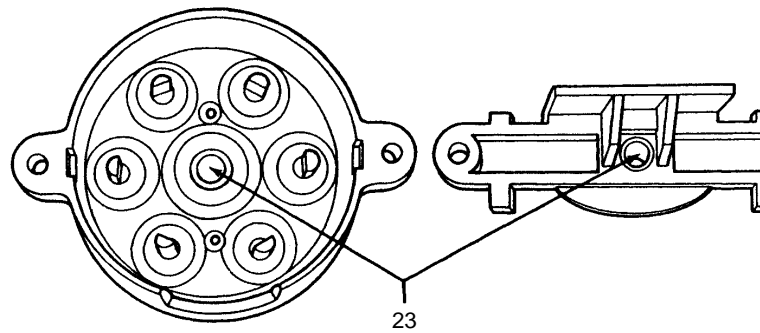

Figure 3
- (3) Gummy or sticky distributor gear oilite bearing (23) indicates contamination. Check distributor block assembly according to instructions in Slick Maintenance and Overhaul Manual L-1037. See Figure 3.